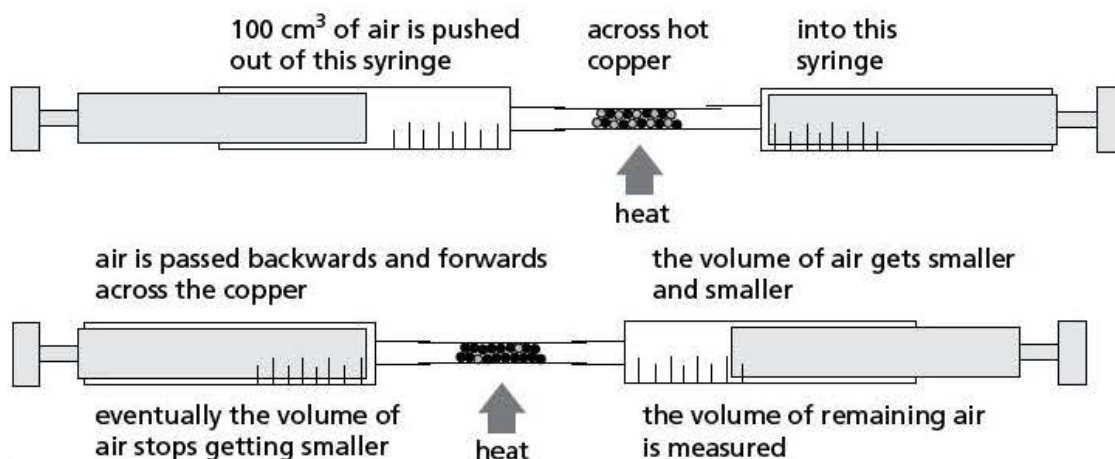

Figure 1
- 5 Set up the apparatus as shown in Figure 1 with 100 cm^3 of air in one of the syringes, while the other should read 0 cm^3 . Place a safety screen in front of this apparatus.